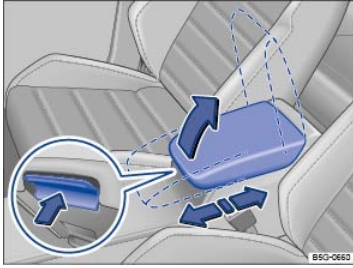

Fig. 77 Front center armrest.
- To adjust the height of the center armrest, push the release button (magnified view), and *lift* the center armrest up to a comfortable position in the direction of the large arrow ⇒ *Fig. 77*.